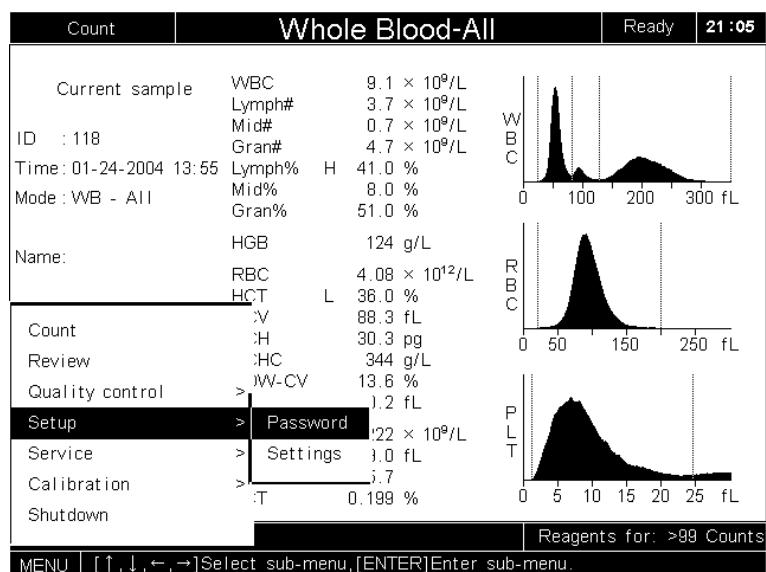

Figure 7-1 Entering the password screen
1. Press [MENU] to enter the system menu and press the appropriate arrow keys ([↑] [↓] [←] [→]) to **Setup** → **Password**, as Figure 7-1 shows.